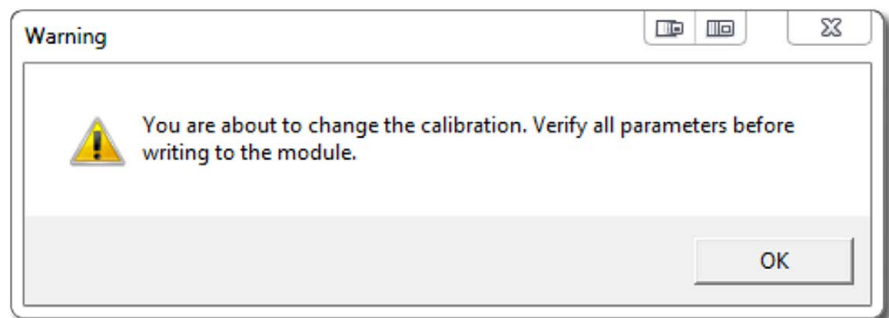

Figure B-16. Import warning dialog.
4. The dialog box shown in figure B-16 will be displayed. Use this dialog to set the instance number of the joystick. If you are configuring a second station joystick, change this instance number to 2. Otherwise, accept the default. Click **OK**.